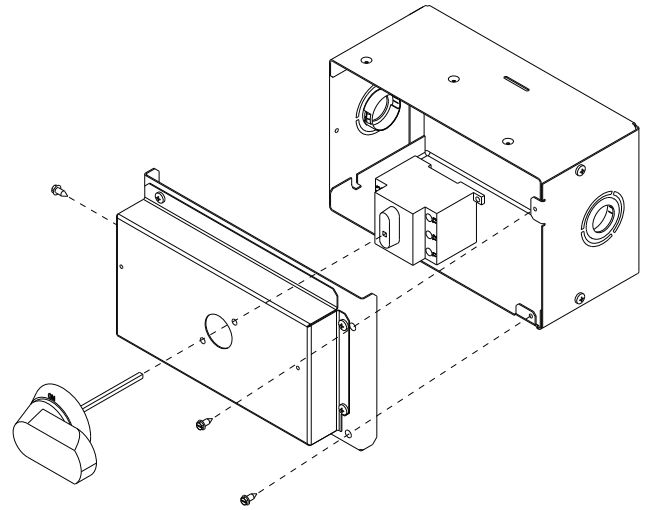

Fig. 30 — Handle and Shaft Assembly for NFD
2. Remove (3) cap head screws that secure the NFD enclosure front cover — (2) on the face of the cover and (1) on the left side cover. See Fig. 30.
5. Insert the shaft with the cross pin on the top of the shaft in the horizontal position. See Fig. 30.
10. Secure the handle to the painted cover with (2) screws and lock washers supplied.
11. Engaging the shaft into the handle socket, re-install (3) hex screws on the NFD enclosure.